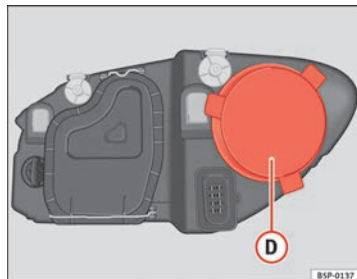

Fig. 183 Side light
- Remove the cover ⇒ Fig. 183 **D** by pulling on this.